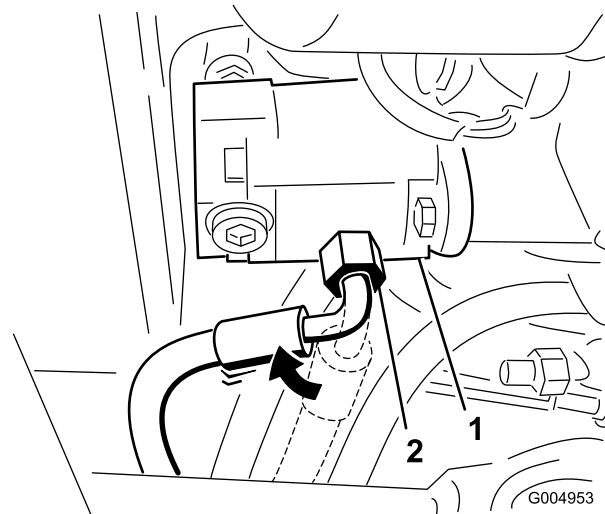

Figure 105
16. Loosen the pressure hose fitting at the pump and rotate the fitting 45 degrees toward the front of the machine (Figure 105).
Note: Figure 105 is shown as viewed from under the traction unit.